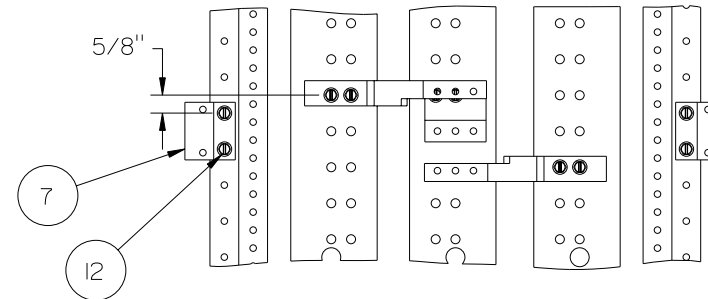

Figure 5
6. Reference fig. 5 - The QJ mounting brackets (item 7) are to be mounted. Locate a 0.228" diameter hole on the left Z-rail 5/8" below the mounting screws of the A  $\phi$  strap. Insert one 1/4-20 X 3/8" screw (item 12) through the 0.312" diameter hole in the QJ mounting bracket and then into the hole in the Z-rail and tighten. Orient the QJ mounting bracket as shown, insert another 1/4-20 X 3/8" screw through the second 0.312" diameter hole in the QJ mounting bracket and then into a 0.228" diameter hole in the Z-rail and tighten. Repeat the same steps to install the second QJ mounting bracket onto the right hand Z-rail. Torque all screws as specified on the rear of the dead front.